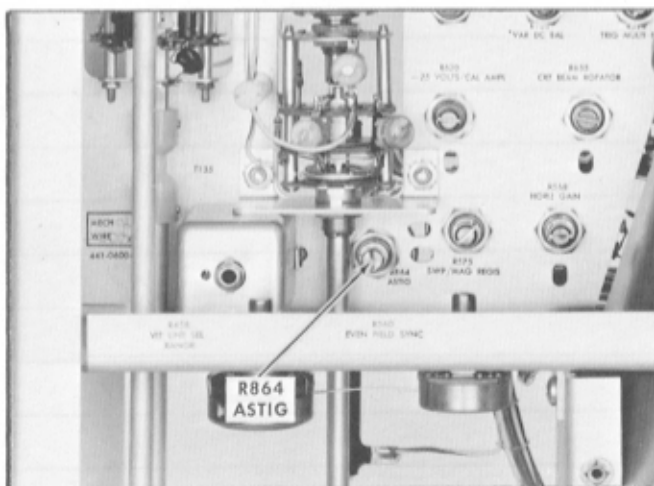

Fig. 6-6. Location of ASTIG adjustment.
- c. Adjust the FOCUS and ASTIG controls (R864; see Fig. 6-6) to obtain a well-defined display using normal brightness.